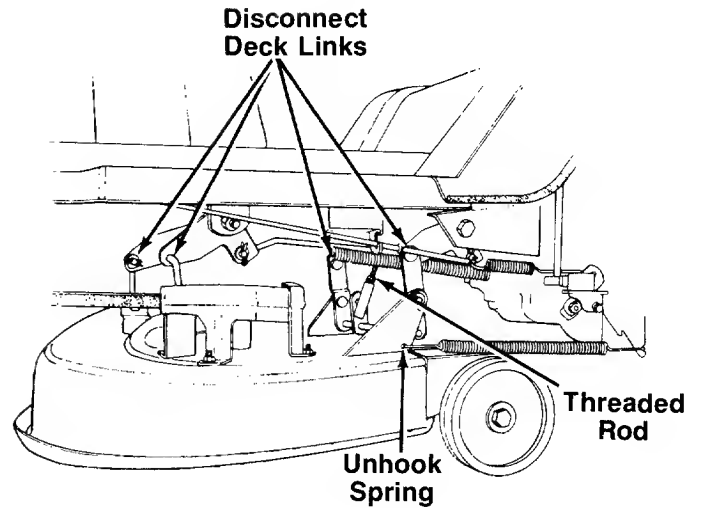

FIGURE 21.
5. Disconnect the spring from the left rear deck bracket. See figure 21.
7. Slide the threaded rod out of the tubing. See figure 21. Slide the deck from beneath the lawn tractor.